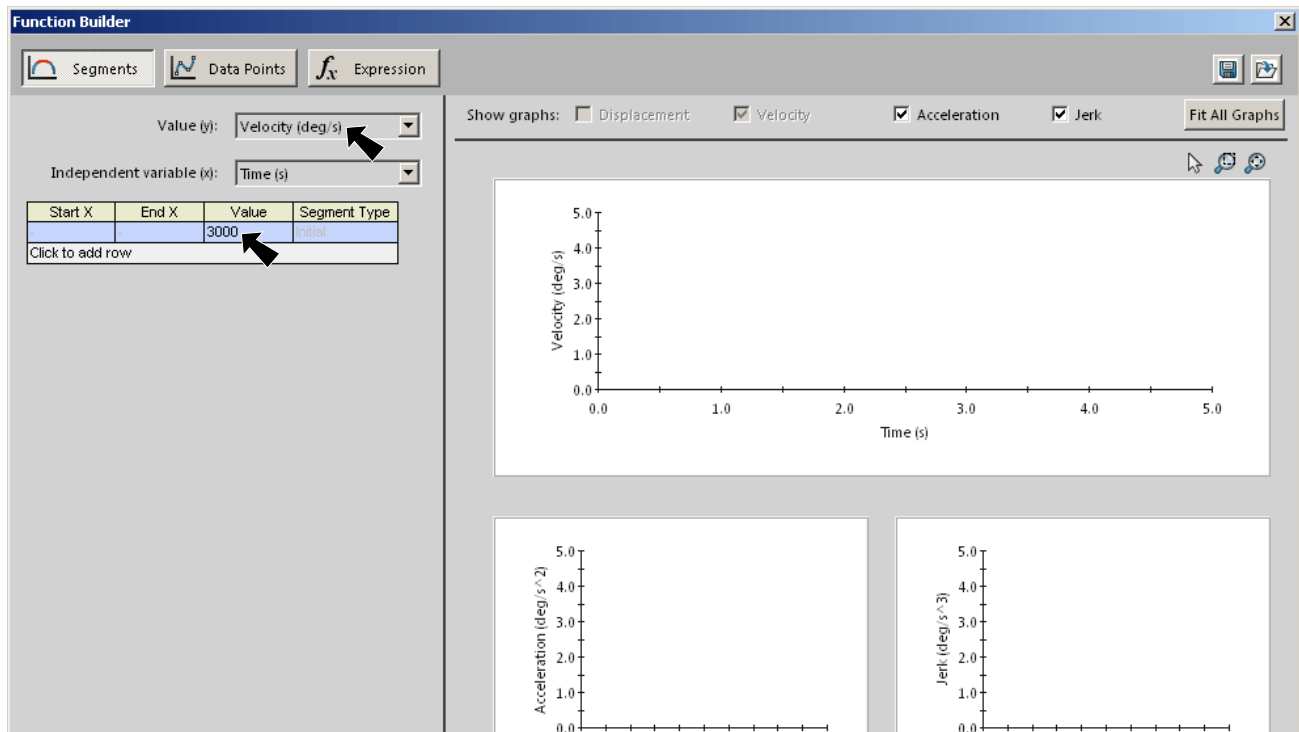

Fig. 7
Step 3. In the Function Builder dialog box set, Fig. 7:
Step 4. In the Segments chart, Fig. 7